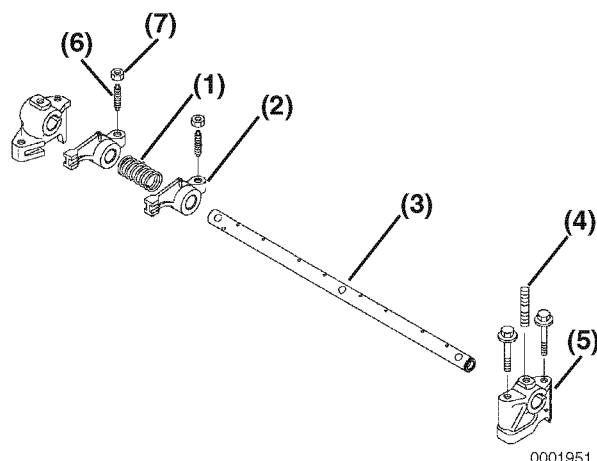

Figure 6-36
1. Lubricate the rocker arm shaft. Slide the rocker arm supports (**Figure 6-36, (5)**), springs (**Figure 6-36, (1)**) and rocker arms (**Figure 6-36, (2)**) onto the shaft.
Note: To properly align the rocker arm shaft with the rocker arm shaft supports, first reinstall a rocker arm support (**Figure 6-36, (5)**) having a hole for the shaft alignment stud (**Figure 6-36, (4)**). Align the hole in the rocker arm shaft and the hole in the rocker arm support. Reinstall the alignment stud.
Note: **Figure 6-36** shows components for one cylinder. Components for all remaining cylinders are assembled in the same order.
- If removed, reinstall the valve adjusting screws (**Figure 6-36, (6)**) and the lock the nuts (**Figure 6-36, (7)**).